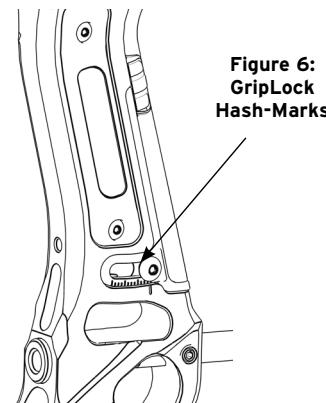

Figure 6:
4. Note the adjustment hashmarks as shown in Figure 6. Each graduation corresponds to approximately 1 degree. This can be used to fine tune the angle of your GripLock grip.